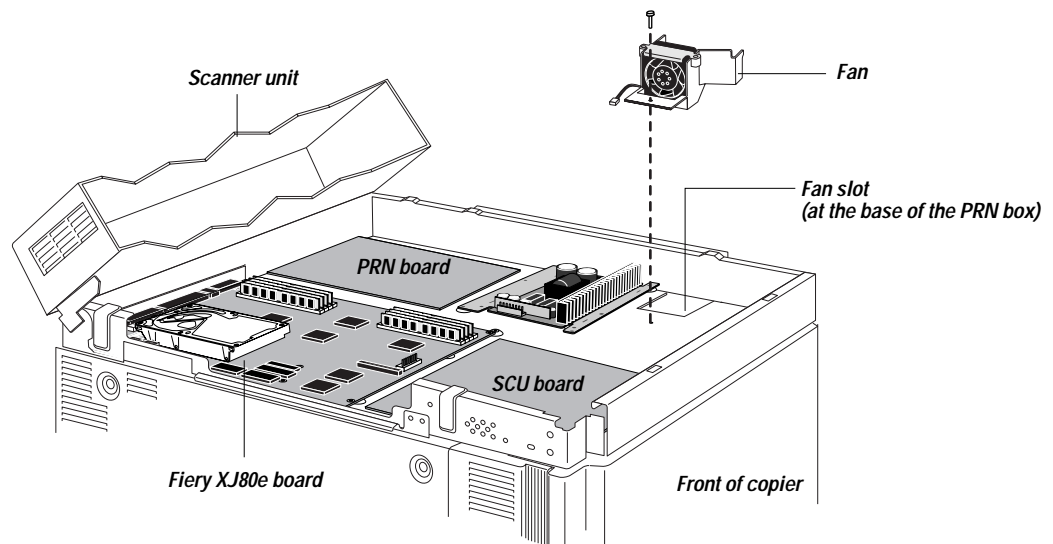

Figure 3-13 Installing the fan
3. *With the fan label facing the edge of the copier, angle the fan so that the bottom of it rests in the slot (see Figure 3-13).*